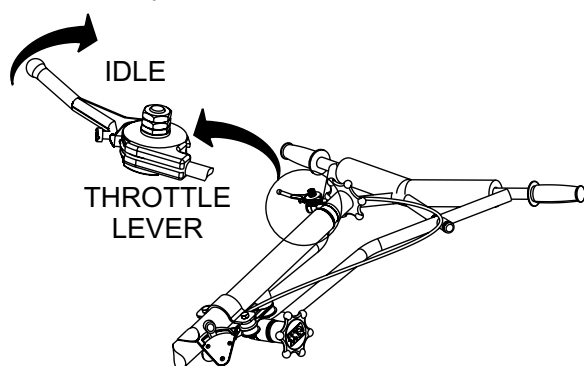

Figure 20. Throttle (Idle Position)
2. Pull the **throttle lever** (Figure 20) backwards and place in the "idle" position.